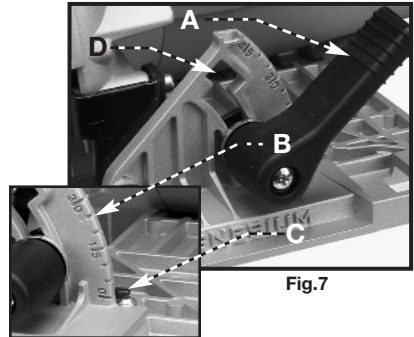

Fig.7
1. Loosen the bevel adjusting lever (A) Fig. 7.
2. Tilt the saw base until the desired graduation line on the bevel segment (B) Fig. 7 aligns with the indicator (C) Fig. 7 on the bracket.
4. For bevel cuts greater than 45°, set the guide on the 45° mark. Lift the bevel adjusting lever into the slot (D) Fig. 7 and move the saw base to the greater angle. Tighten the bevel adjusting lever firmly.